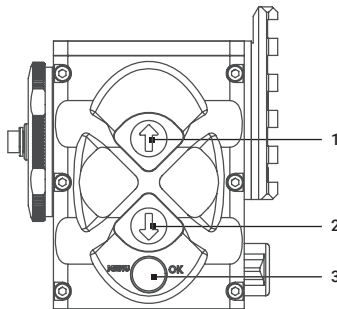

FIGURE 2-6. BUTTON CONTROL PANEL
The Cobra button control panel is shown in Figure 2-6.
Table 2-2 contains the button functions and their descriptions. The ITEM NO. column indicates the number used to identify buttons in Figure 2-6.
To display the MAIN MENU, hold down button (3) on the control panel (Figure 2-6).